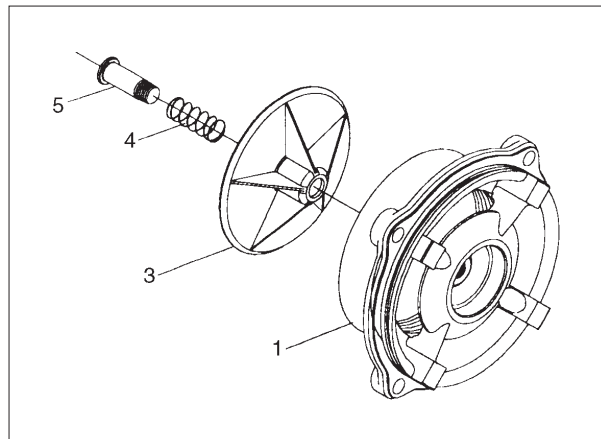

Fig 2.
5. Remove the deflector retaining screw (5), deflector retaining spring (4) and the splash deflector (3) from the housing exhaust cover (1), See fig 2.